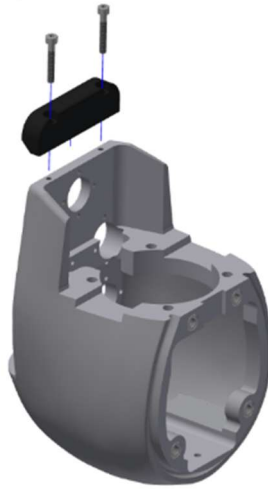

Figure 3-27. Chin guard and skull
- 3.3.7 Attach the chin guard (474-1411) to the skull (474-1010) using two M4 X 0.7 X 22 SHCS (Figure 3-27).